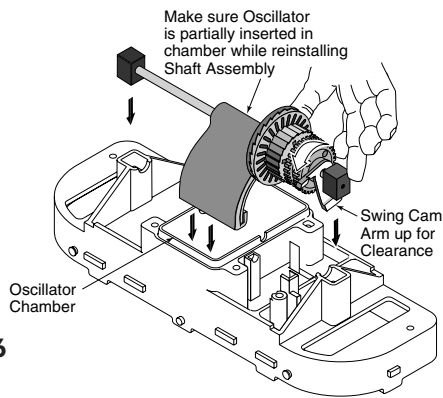

Figure 26
3. Install the long gear shaft and end blocks in the cleaning head with the large arm of the cam down (see Figure 26).